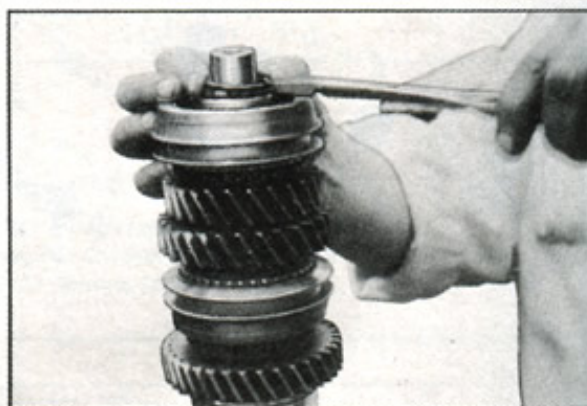

Fig. 7—Removing 3-4 Clutch Assembly Retaining Ring
1. Using snap ring pliers or equivalent, remove 3-4 clutch assembly retaining ring at front of mainshaft (Fig. 7). Slide washer, synchronizer and clutch assembly, synchronizer ring and the 3rd speed gear from mainshaft.